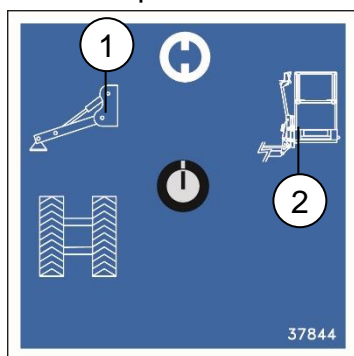

fig. 4.3.5
1. Turn the selector switch key (*pos. 2 fig. 4.3.5*) to the “Work Platform” position
3. Insert the key in the selector switch on the stabilisers/platform control panel and rotate it to the "stabilisers" position (*pos. 1 fig. 4.3.5*).